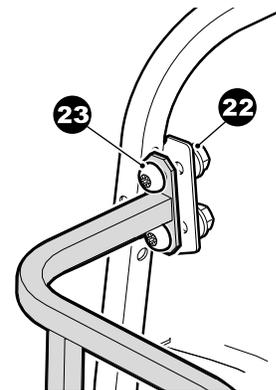

Fig. 15 Upper Hip Restraint Bolts
- Loosen the torx head bolts (23) and nuts (22) (Ref. Fig. 15) that secure the seat back mounting brackets and hip restraint to the seat back support (14).
- Slide the seat back assembly (15) with the brackets attached towards the back of the vehicle and remove it from the vehicle.
- To separate the seat back assembly (15) from the mounting brackets (17) remove the four torx head screws (16), two from each bracket.